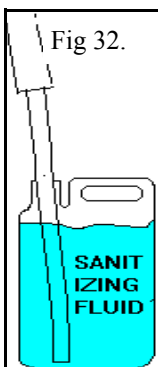

Fig 32.
5. Prepare a solution of proprietary sanitizing fluid such as . **DIVERSAL BX4A**. carefully following the manufacturers instructions. A 5 litre syrup container is ideal for this operation. Fig 32.